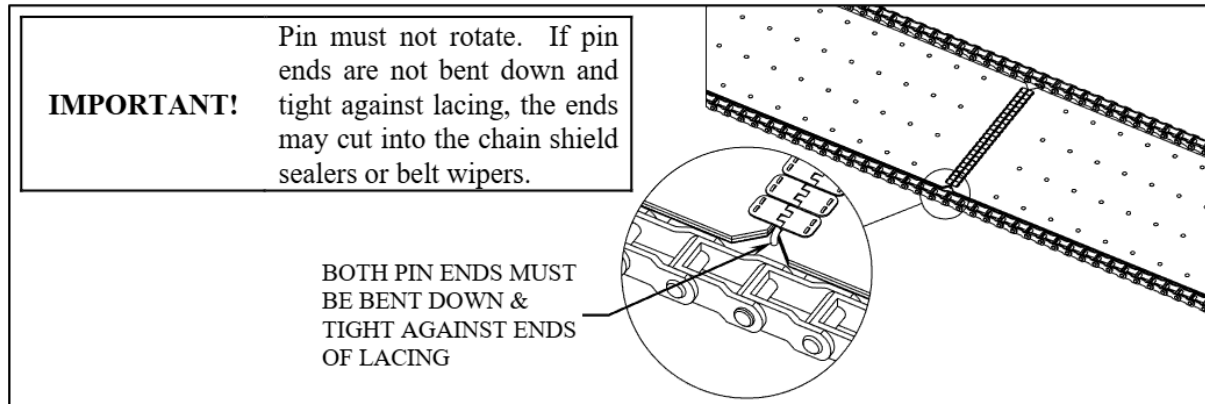

Figure 10 – Conveyor Belt Pin Installation
- Make sure belt connecting pin is positioned correctly as shown in Figure 10.